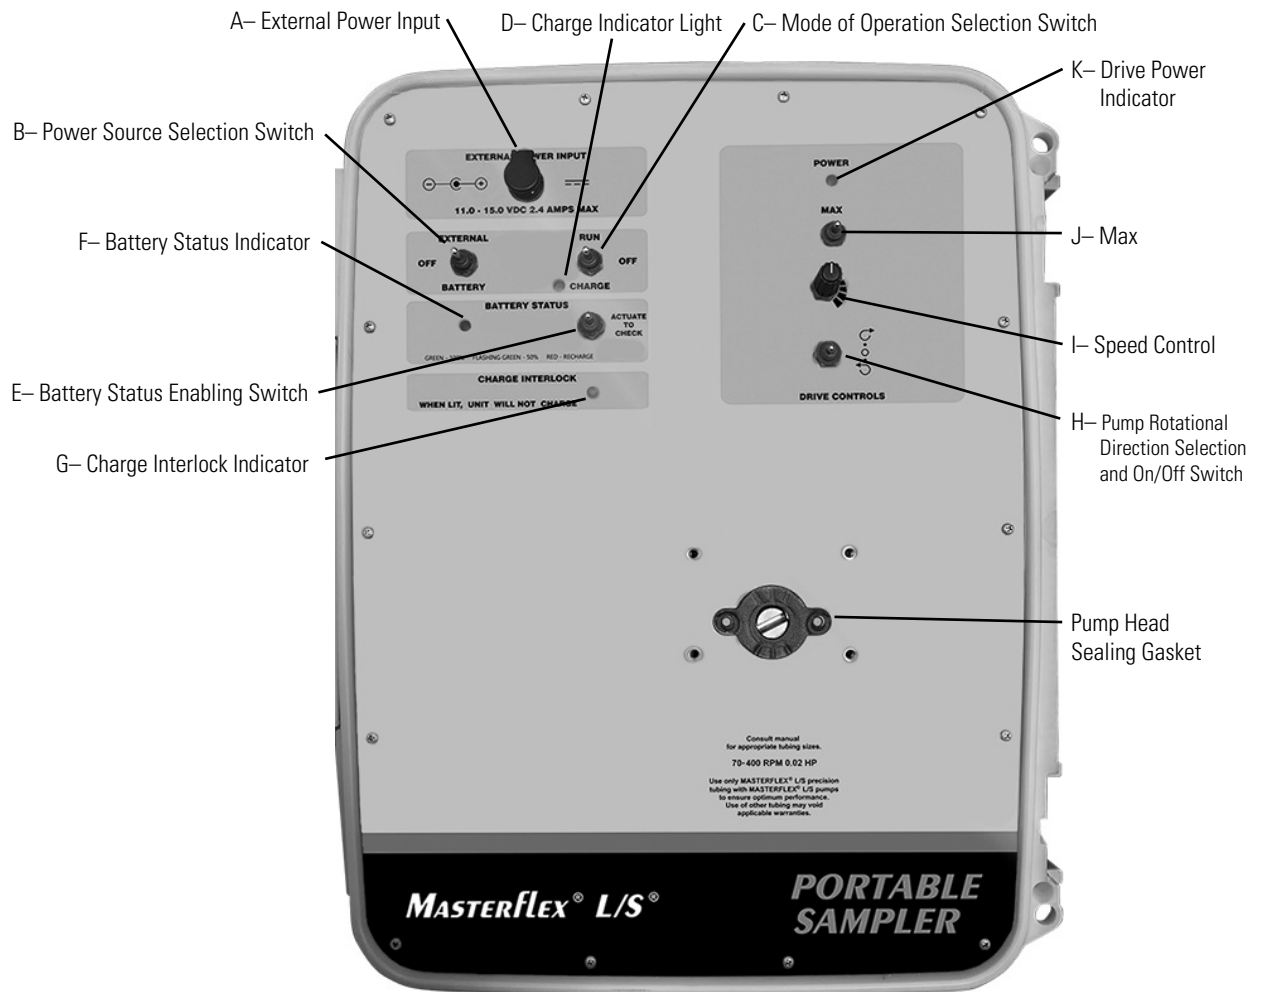

Figure 1- Control Panel
- A. Connect the supplied AC/DC Power Supply/Converter to drive by lifting EXTERNAL POWER INPUT (A) receptacle cover and inserting the 2.5 mm coaxial power jack into the receptacle. (See Figure 1.)
- C. **Select Pump Rotational Direction Selection On/Off Switch (H)**, CW or CCW. (See Figure 1.) (When changing directions, turn off the power first, which is the center or OFF position of the Rotational Direction Switch.)
- D. **Adjust pump flow rate** with the 1-turn **Speed Control (I)**, by turning the knob CW to increase flow rate or CCW to decrease flow rate.
- E. To **“Prime the Tubing”**, toggle the **“MAX” Switch (J)**, up or down to make the pump run at maximum speed.
- A. **Place the Power Source Selection Switch (B), (EXTERNAL/BATTERY)** to the **“BATTERY”** position.
- B. **Place the Mode of Operation Selection Switch (C), (RUN/CHARGE)** to the **“RUN”** position.
- A. **Place the Power Source Selection Switch (B), (EXTERNAL/BATTERY)** to the **“EXTERNAL”** position.
- A. **Connect the supplied AC/DC Power Supply/Converter to drive** by lifting the **EXTERNAL POWER INPUT (A)**, receptacle cover and inserting the 2.5 mm coaxial power jack into the receptacle. (See Figure 1.)
- B. **Connect AC/DC Power Supply/Converter to an AC power source. Place the Power Source Selection Switch (B), (EXTERNAL/BATTERY) to the “EXTERNAL” position.**
- C. **Place the Mode of Operation Selection Switch (C) (CHARGE/RUN) to the “RUN” position.**
- D. **Select Pump Rotational Direction Selection On/Off Switch (H), CW or CCW.** (See Figure 1.) (When changing directions, turn off the power first, which is the center or OFF position of the Rotational Direction Switch.)
- E. **Adjust pump flow rate** with the 1-turn **Speed Control (I)**, by turning the knob CW to increase flow rate or CCW to decrease flow rate.
- F. To **“Prime the Tubing”**, toggle the **“MAX” Switch (J)**, up or down and hold to make the pump run at maximum speed.
- A. **Connect the supplied AC/DC Power Supply/Converter** by lifting the **EXTERNAL POWER INPUT (A)**, receptacle cover and inserting the 2.5 mm coaxial power jack into the receptacle. (See Figure 1.)
- C. **Place the Mode of Operation Selection Switch (C) (CHARGE/RUN)** to the **“CHARGE”** position.
- A. **Connect the** external power source by lifting the **EXTERNAL POWER INPUT (A)**, receptacle cover and inserting the 2.5 mm coaxial power jack into the receptacle. (See Figure 1.)
- C. **Place the Mode of Operation Selection Switch (C), (CHARGE/RUN)** to the “CHARGE” position.